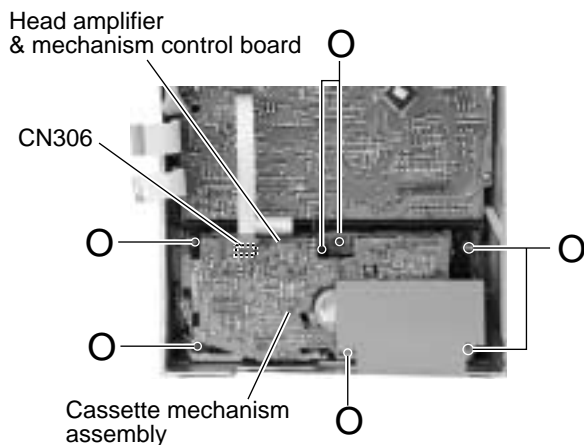

Fig.29
■ Removing the cassette mechanism assembly (See Fig.29)